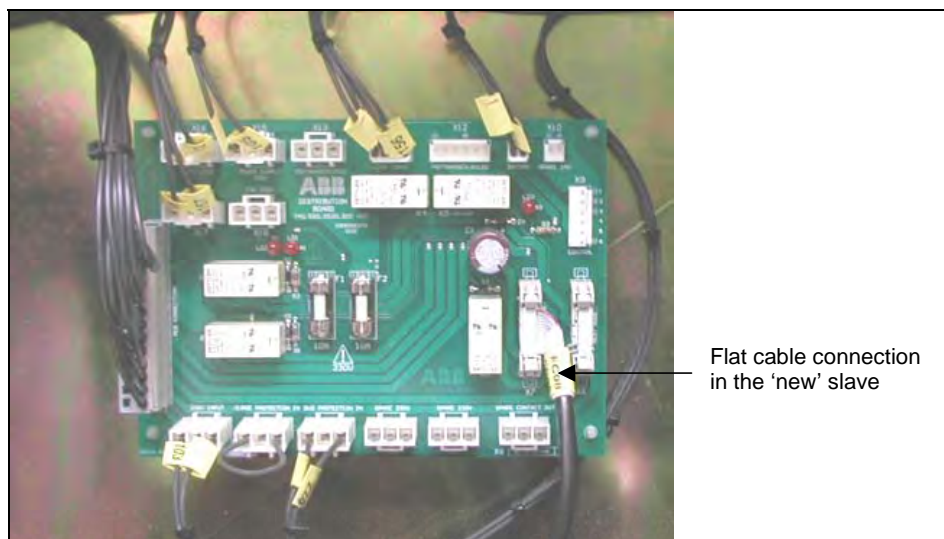

Figure 7.32. Digital control flat cable connection in PQFI slave unit
- The digital control interconnection flat cable is by default connected to the new unit's distribution board (connector X7). Refer to Figure 7.32.